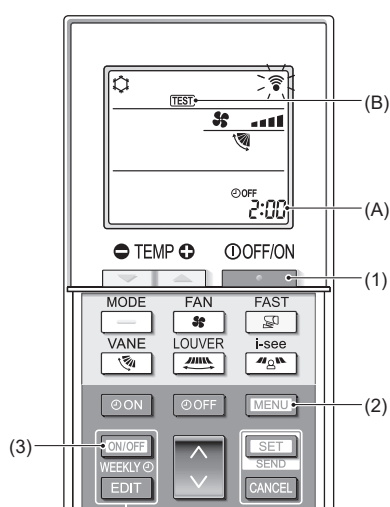

Fig. 7-5
7.2.2. Using wireless remote controller (Fig. 7-5)
- Press the [OFF/ON] button (1) to stop the air conditioner.
- If the weekly timer is enabled (WEEKLY is on), press the [ON/OFF WEEKLY] button (3) to disable it (WEEKLY is off).
- Press the [MENU] button (2) for 5 seconds.
- Press the [MENU] button (2).
- TEST (B) comes on and the unit enters the test run mode.